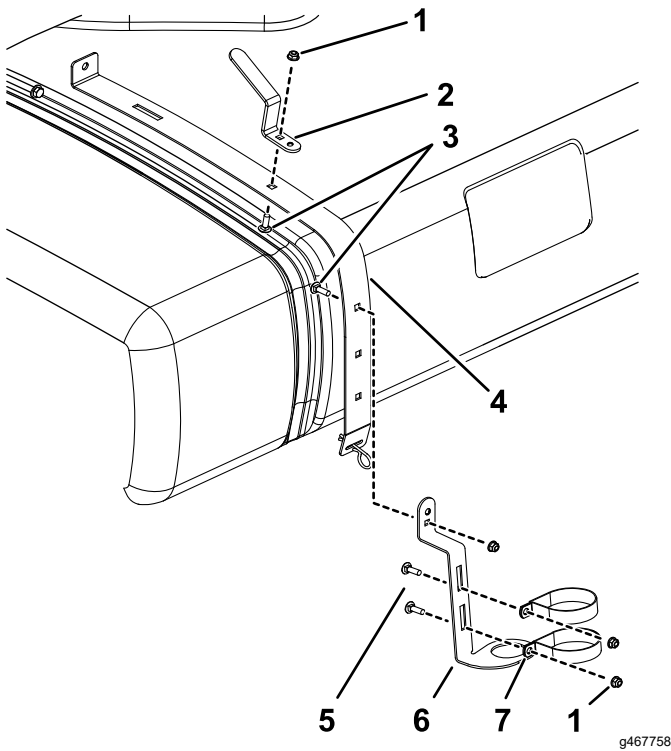

Figure 2
- For the Multi Pro WM, loosen the rear, right strap (Figure 2).
2. Install the R-Clamps, spray-gun bracket, and hose hook as shown in Figure 1 or Figure 2 using a carriage bolt, flat washer, and flange-head nut.